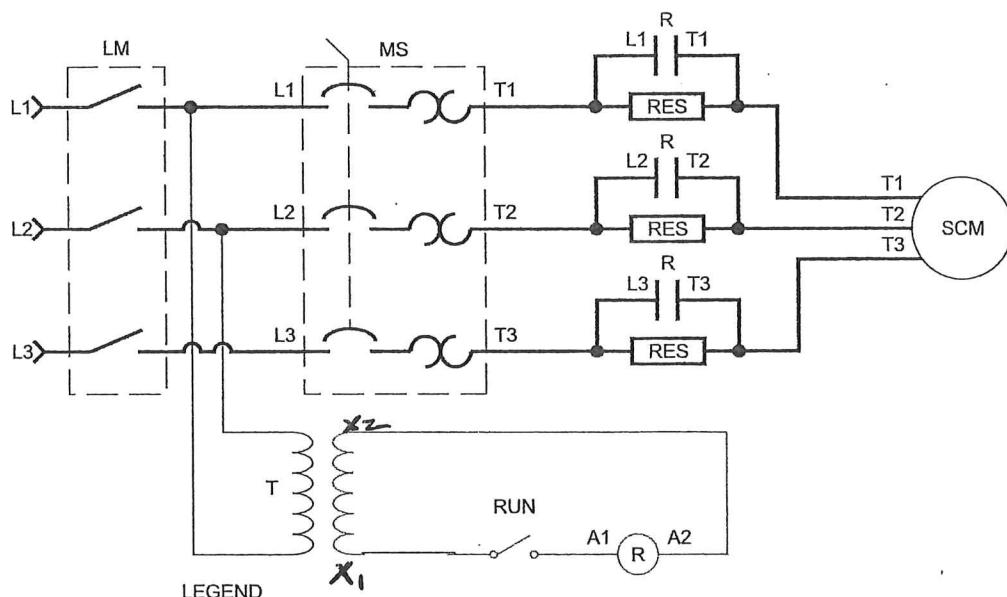

Figure 2 - Resistor Start Motor Circuit
A typical resistor starter circuit is shown in Figure 2. When the Manual Starter is turned on, the resistors are connected in series with the motor. A voltage drop occurs across the resistors and the motor starts on reduced voltage. Once the motor has reached a sufficient speed, the operator shorts the resistors by closing the selector switch commanding the run contactor. The motor is then connected across full line voltage.
- 1) Wire the motor using the STARTING RESISTORS and a main contactor as shown in Figure 2.